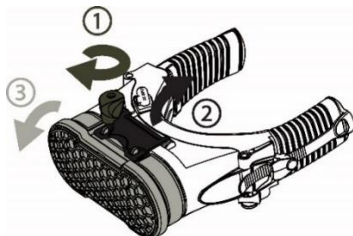

Figure 15 - Removing HE Filter
- Turn the respirator upside down. Using your thumb, move the Latch Lock out of the way and then pull the Latch firmly away from the filter. The filter can now be removed. See Figure 15.